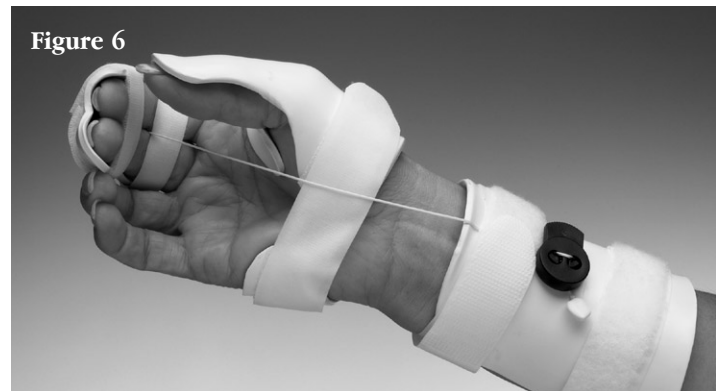

Figure 6
- Weave the string's end through the cord lock. Push the cord lock up to the hole, tightening the string. (Figure 6)